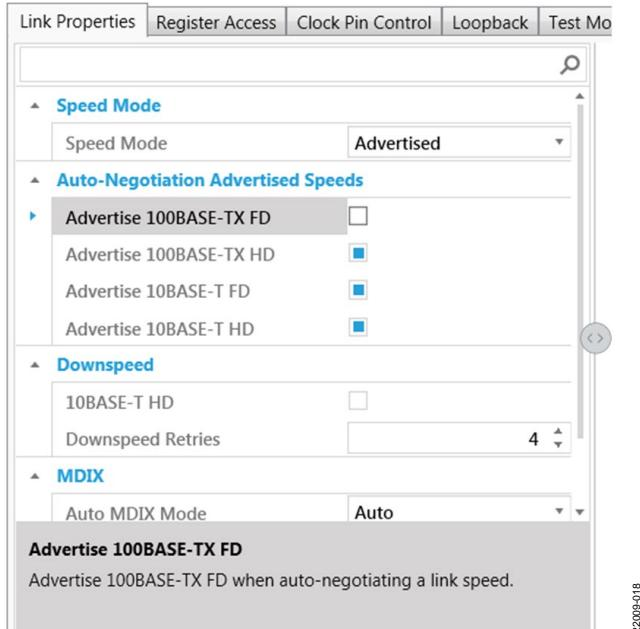

Figure 18. Link Properties Tab
a prompt describing the function at the bottom of the linking control box (see Figure 18).
- **MDIX:** use the dropdown menu to choose **Auto**, **MDIX**, **FixedMDI**, or **FixedMDIX** (**FixedMDI** and **FixedMDIX** not shown in Figure 18).